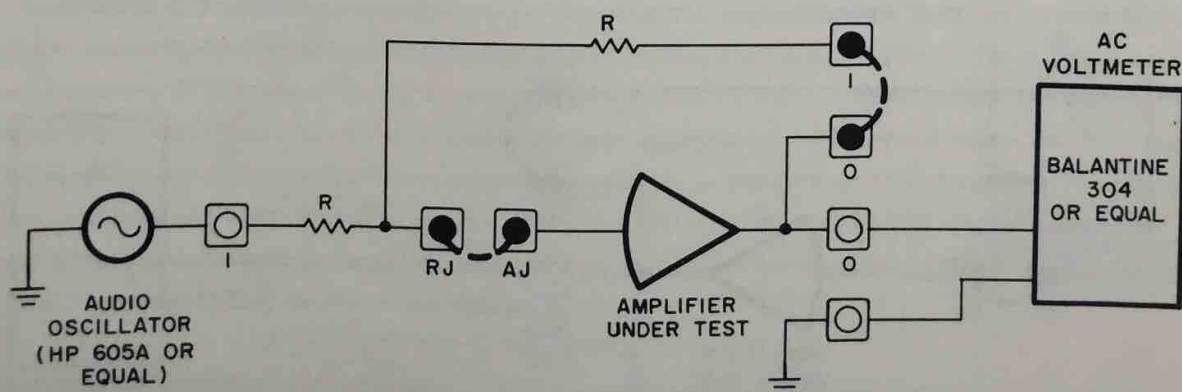

Figure 1.6. Frequency Response Test Circuit
1. Patch the amplifier for unity gain using 100k ohms resistor (Figure 1.6).